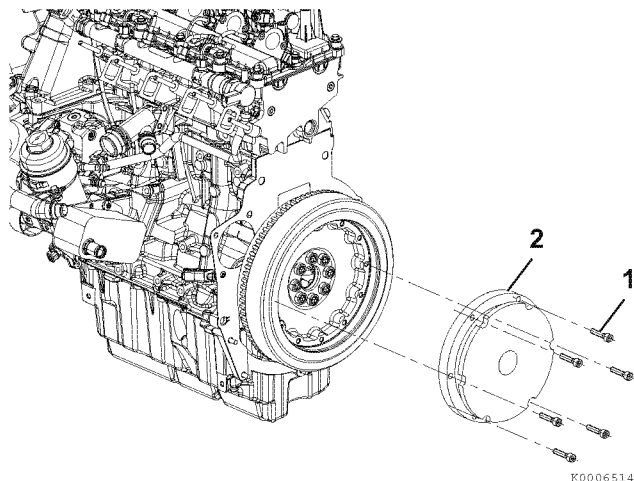

Figure 5-66
3. Remove 12 bolts (1, **Figure 5-66**).
4. Remove coupler (2, **Figure 5-66**).